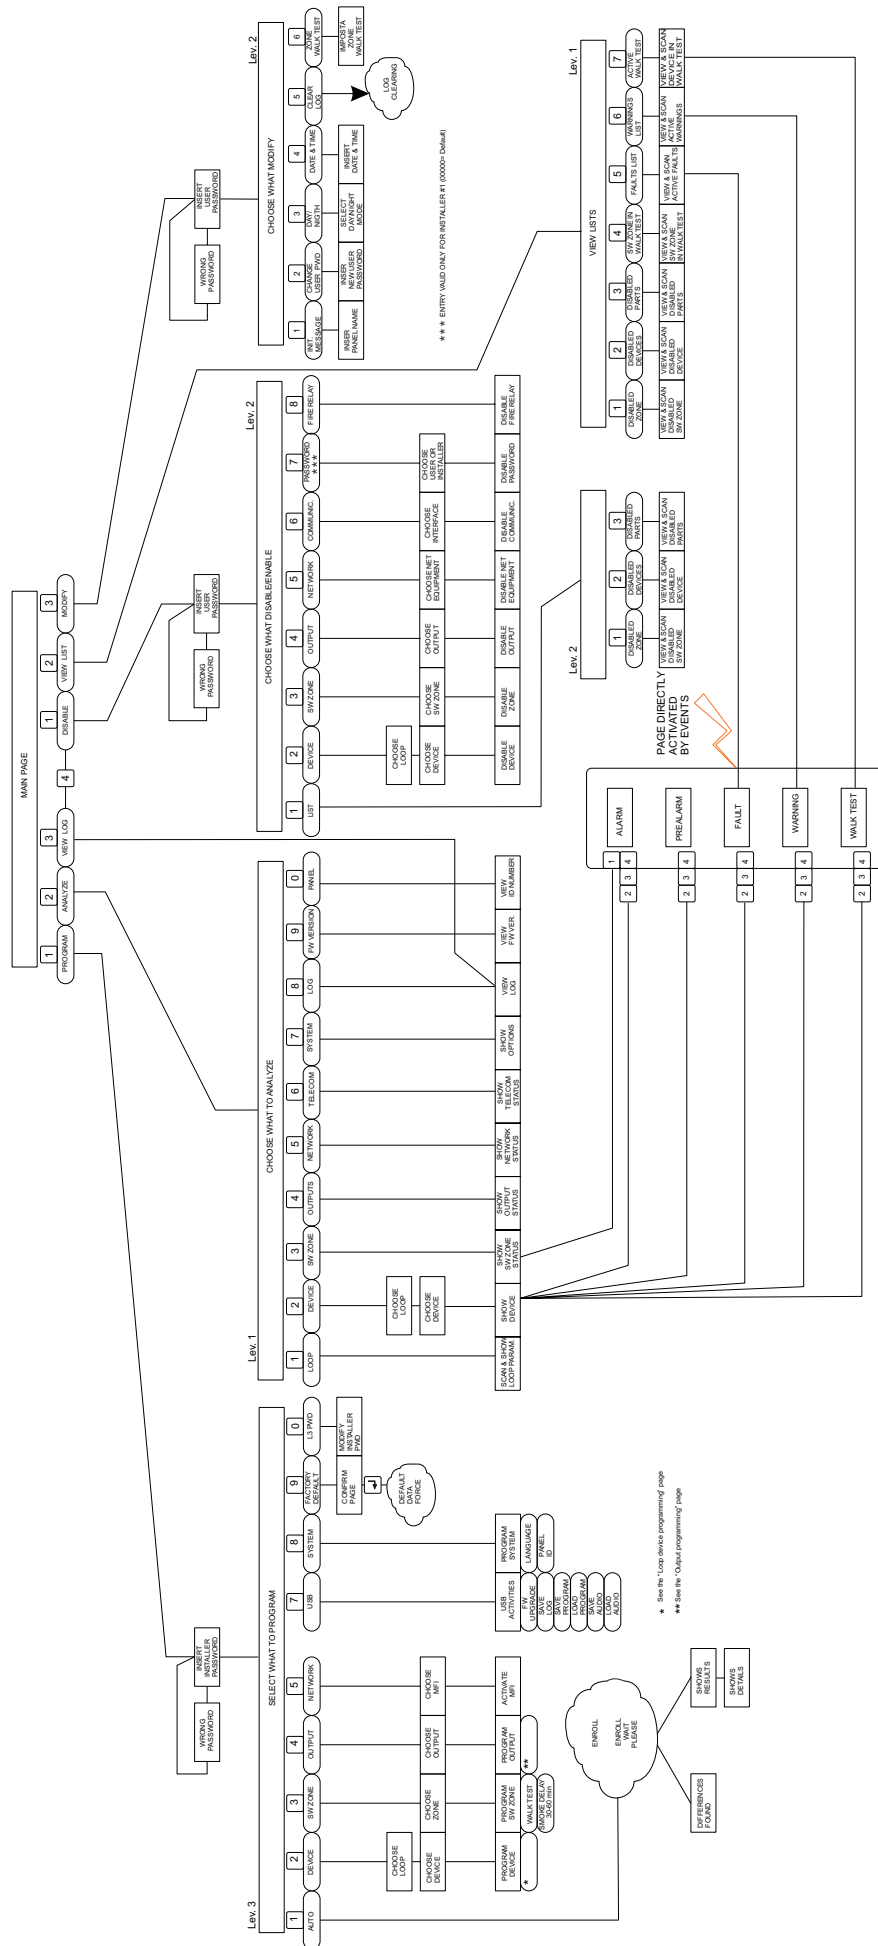

Figure 32 Diagram of all possible operations from the panel, L1, L2 and L3 Levels
-**ANALYZE** button (see Figure 32) **views** the status of the: LOOP, DEVICE, SW ZONES, OUTPUT, NETWORK, TELECOM, OPTIONS, LOG and the FW Vers.;